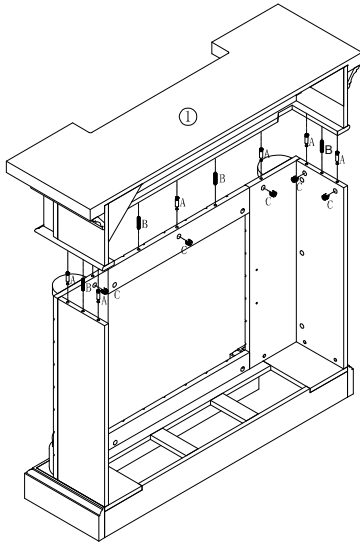

Figure 4
INSERT 7PCS CAM BOLT (A) AND 4PCS WOOD DOWEL (B) INTO PREDRILLED HOLES OF TOP PANEL(1),AND THEN INSERT 7PCS CAM-LOCK(C) INTO BIG HOLES OF SIDE PANEL AND FRONT PANEL AND UPPER FRONT PANEL(2.3.4) TO ASSEMBLE TOP PANEL(1) AND PREASSEMBLED FRAME TOGETHER.AS FIGURE4 SHOWN.